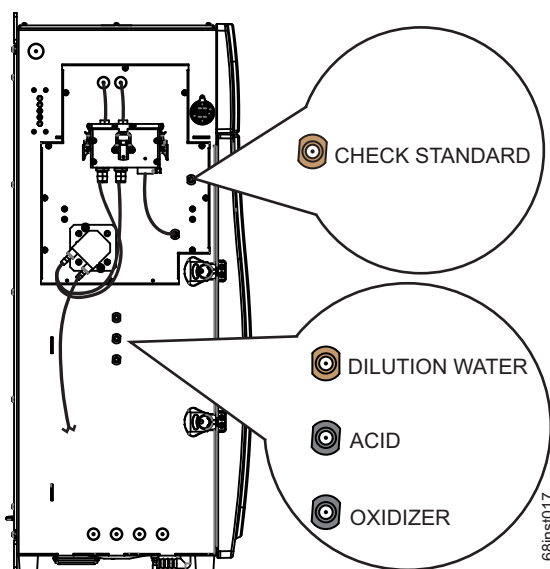

Figure 35: Connections (2-Stream, Clean Water Sampler shown)
Access one of the 1/8-in. OD tubes in the Analyzer's accessories. Attach the 1/4-28 PEEK fitting in the Check Standard port on the left side of the Analyzer. The fitting should be finger-tight. See Figure 35: Connections \(2-Stream, Clean Water Sampler shown\) on page 101.
1. Attach one end of the tubing to the top tan port labeled “**DILUTION WATER**” on the left side of the Analyzer, and tighten the PEEK nut finger-tight. See Figure 35 on page 101.
3. Attach one end of the tubing to the middle (black) port labeled “**ACID**”, and tighten the PEEK nut finger-tight. See Figure 35 on page 101.
2. Attach one end of the tubing to the bottom (black) port labeled “OXIDIZER” on the left side of the Analyzer and tighten the PEEK nut finger-tight. See Figure 35 on page 101.